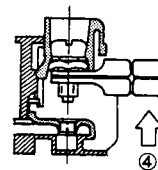

Fig. 6
4. Insert the lower crimp terminal, and pass the crimp terminal through a screw. (Fig. 6)